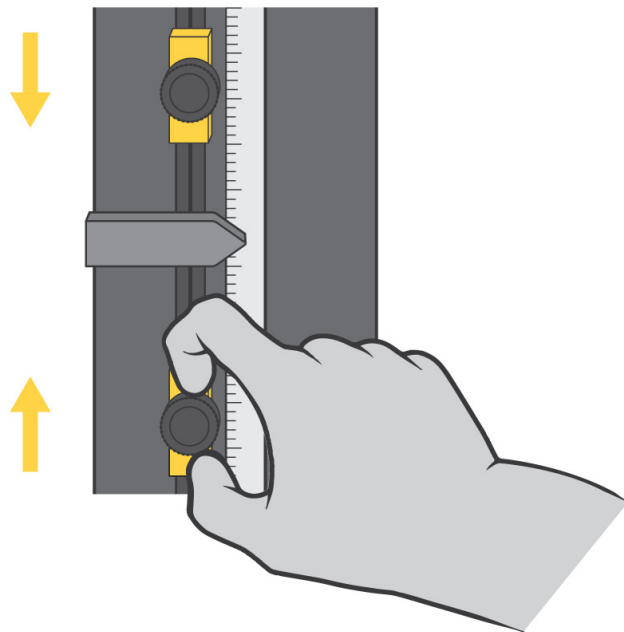

Figure 21. Setting Limit Stops
The crosshead limit stops are two adjustable blocks mounted on the limit switch rod, which is located inside the column of the machine, as shown in Figure 21 on page 108. Limit stops (1 and 2) have thumbscrews that you tighten and release by hand, and you can move them to any position on the limit rod. Position these stops just beyond the test parameters to prevent crosshead over-travel. When the crosshead reaches the maximum pre-set travel, the limit switch actuator (3) contacts one of these stops. Contact between the limit actuator and the limit stop moves the limit switch rod (4) and activates the limit switches. This stops crosshead motion.